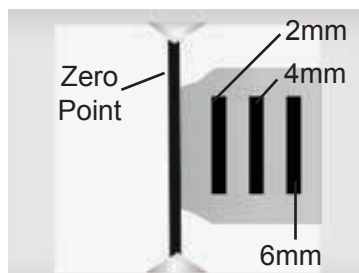

Figure OC-2 Corneal Alignment Device Close Up
11. From the front of the instrument, look into the Corneal Aligning Device. The upper and lower pointers should be in exact alignment with the solid black line visible on the mirror. This is the zero point indicating a 13.75 mm distance from the apex of the patient's cornea. Also visible are three hash marks, each representing 2 mm additive distance. Refer to Figure OC-2.